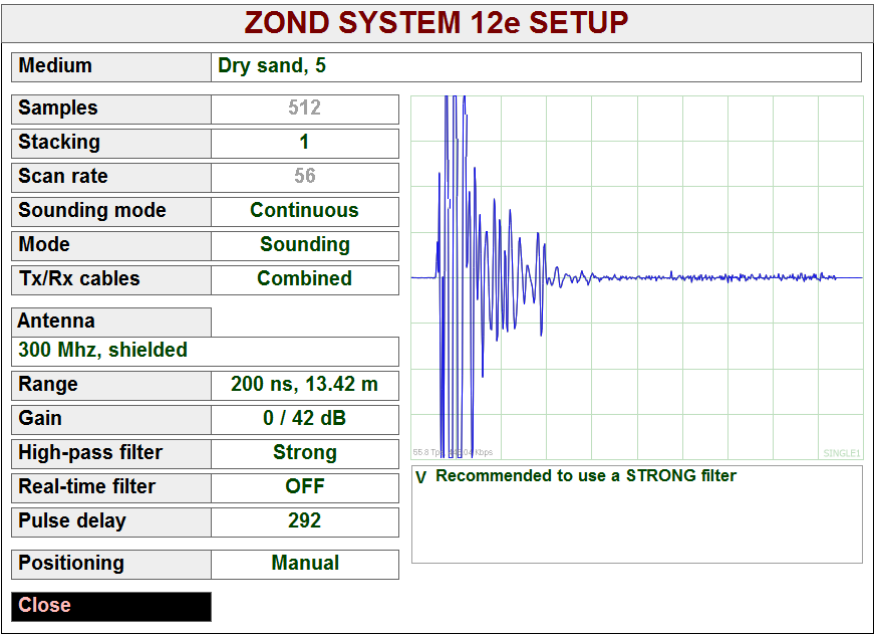

Fig. 9.2a. Single channel GPR settings.
- Single channel **Zond-12e** GPR settings interface shown on Fig. 9.2a.